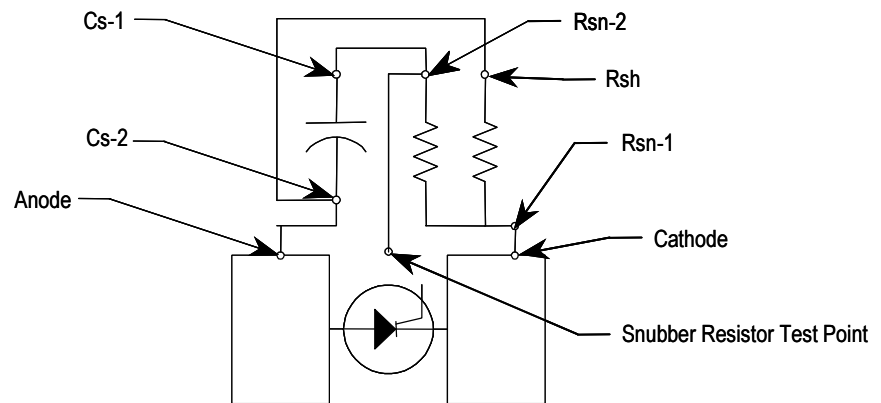
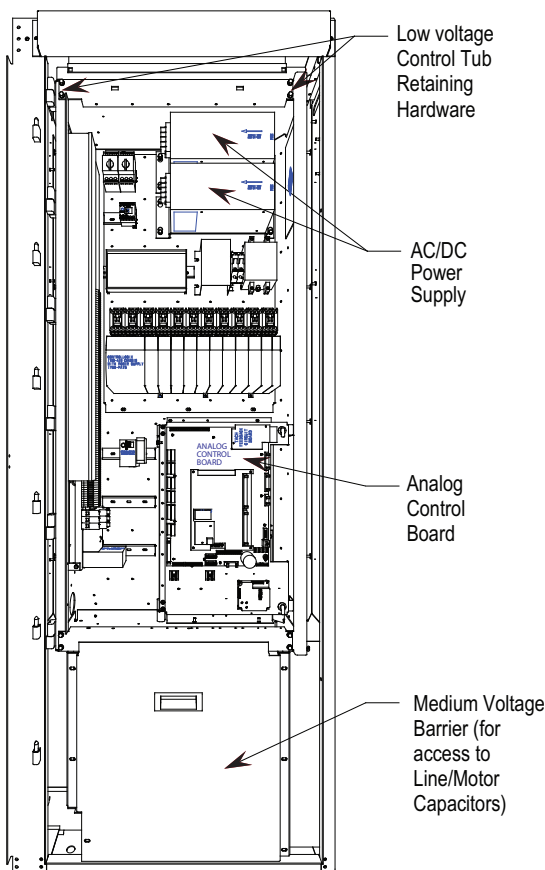

Figure 5.26 – Snubber Circuit for SGCT module
Figure 5.30 – DC Link and Fan cabinet with low voltage control tub shown
The snubber circuit is shown in Figure 5.26. Figure 5.30 shows the physical locators of the same circuit. Measure the resistance across two adjacent heatsinks. A value between 60 k Ω and 75 k Ω indicates a good sharing resistor.
2. Remove medium voltage barrier below the low voltage panel to access capacitor. (See Figure 5.30).